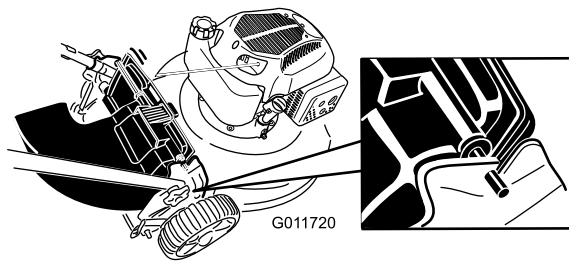

Figure 18
4. Insert the rod on the rear-discharge deflector into the notches on the mower (Figure 18).